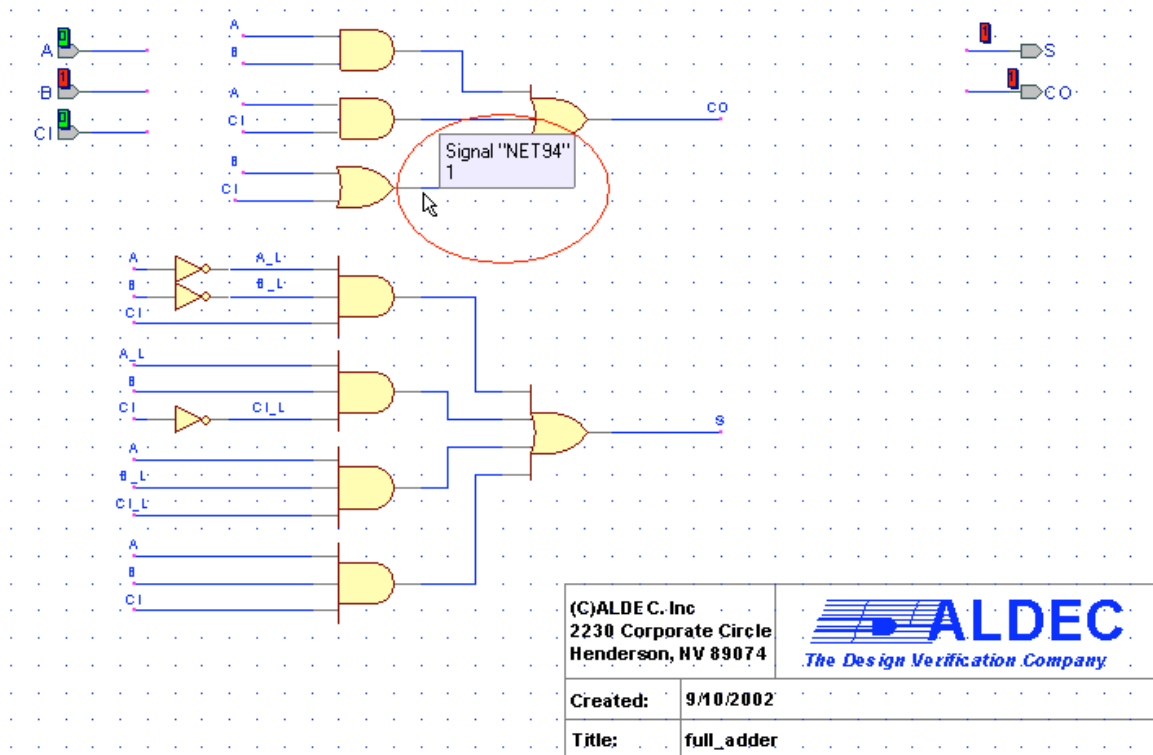

Figure 48
- The sum waveform showed that the sum was correct. Therefore, we focused on the carryout logic. When running a simulation, there are boxes next to each input and output signal in the schematic that display their values throughout the simulation. A green box means the signal is low (0), a red box means the signal is high (1), a yellow box (z) means the signal is unconnected, and a blue box (x) means the signal is unknown. We noticed that after running the simulation for 10 ns that the box next to the carryout output terminal was red (see Figure 48 on the next page). Using the mouse-over feature, we traced the signal from the carryout terminal all the way back to the input signals.